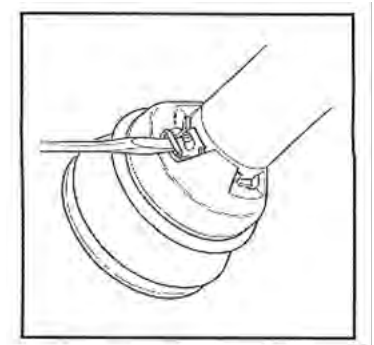

Figure 14-3: Remove Tab
1. Remove the EASY LOCK[®] tab with a screwdriver (Figure 14-3).